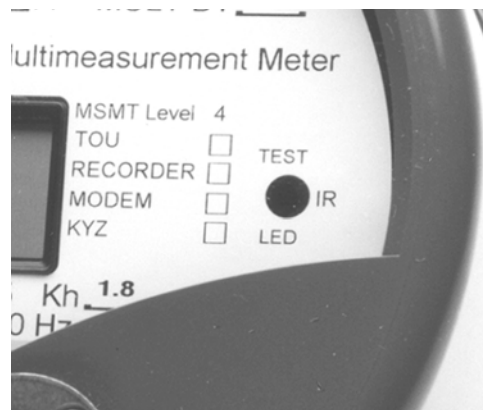

Figure 7.1 Infrared Test LED
The meter is equipped with an Infrared (IR) Test Light Emitting Diode (LED) for testing meter accuracy; the LED is located at the three o'clock position on the meter faceplate (Figure 7.1). The pulse weight represented by the LED is programmable through the PC-PRO+ 98 programming software. The programming software allows a different pulse weight value for the LED in the following display modes: Normal, Alternate, Test, and Test Alternate. The meter can be programmed to drive the Test LED with a variety of energy values, depending upon the energy quantities selected in the configuration.